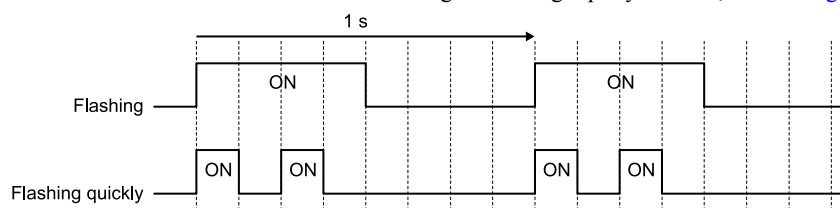

Figure 3.6 About the RUN LED's Flashing Statuses
*1 For the details on the difference between the RUN LED's flashing vs flashing rapidly statuses, refer to Figure 3.6.